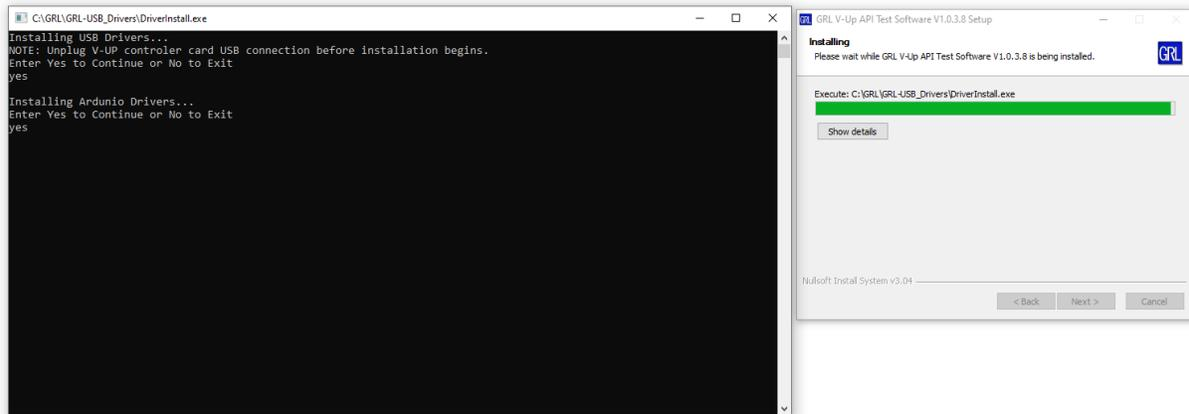

FIGURE 3.6: GRL-V-UP ARDUINO DRIVERS INSTALLATION IN PROGRESS
7. When prompted for GRL-V-UP Arduino drivers installation as shown in Figure 3.6, type “YES” and press the “Enter” key to install the drivers.